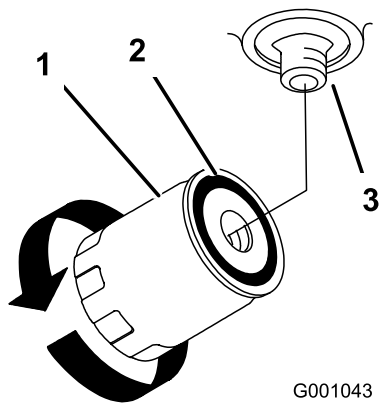

Figure 77
4. Remove the old filter and wipe the filter adapter gasket surface clean (Figure 77).
6. Install replacement hydraulic filter onto the filter adapter. Turn the oil filter clockwise until the rubber gasket contacts the filter adapter, then tighten the filter an additional 1/2 turn (Figure 77).